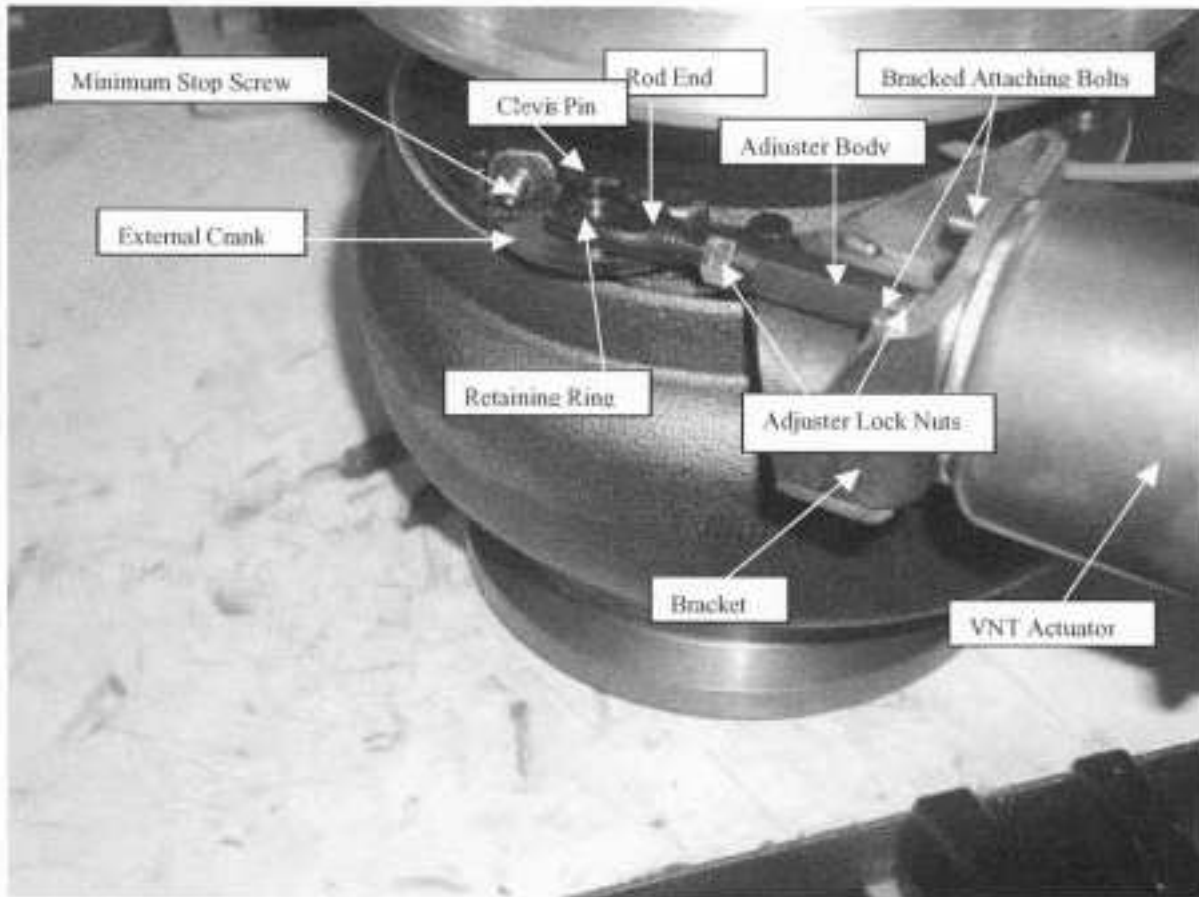

Figure 1
VNT Actuator Removal (Refer to Figure 1)
7. Rotate the **adjuster body** (see Figure 1) until a 0.004 inch ± 0.001 ($0.10 \pm .0250$ mm) gap is achieved between the stop screw and clevis. Without allowing the adjuster body to rotate, tighten the lock nuts to 6.2 – 7.9 N·m (55 – 70 in-lbs).